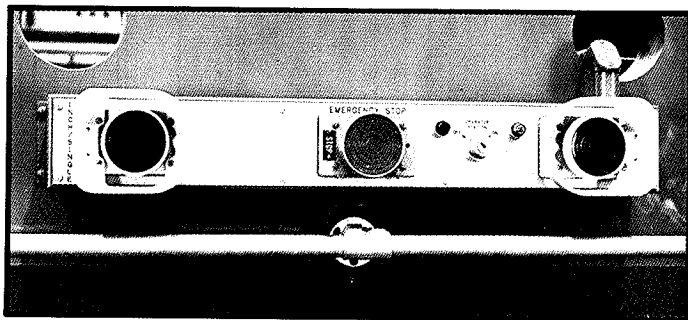

FIGURE 46
4. PALM BUTTON OPERATOR'S STATION (FIGURE 46)
2. Palm Button Operator's Station (Figure 46)